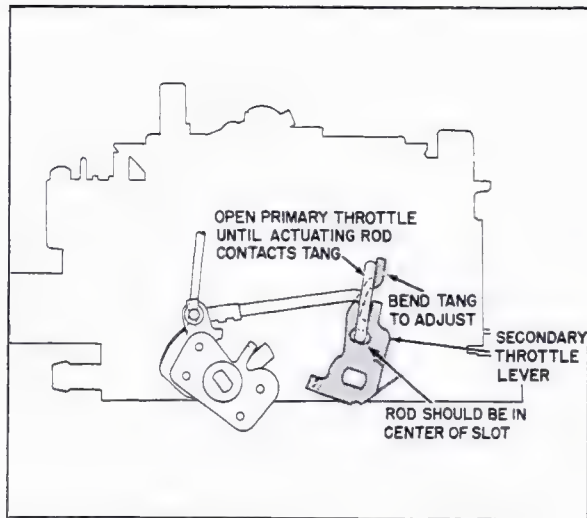

Fig. 6-84 Secondary Throttle Adjustment
**87. Secondary Throttle Opening Adjustment (Fig. 6-84)**
2. Bend tang on secondary throttle lever, Fig. 6-84, if necessary to adjust.